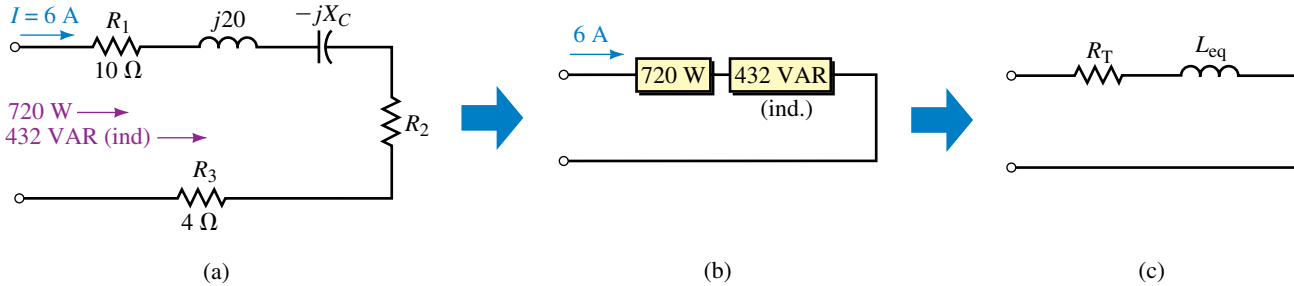

FIGURE 17-41
15. For Figure 17-41, $\omega = 10$ rad/s. Determine